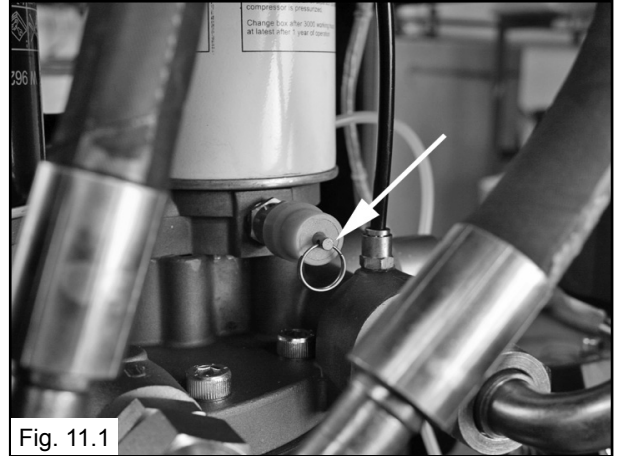

Fig. 11.1
1. Bleed off any internal pressure by pulling open pressure relief valve located below the Oil Separation Filter. (See Fig. 11.1)